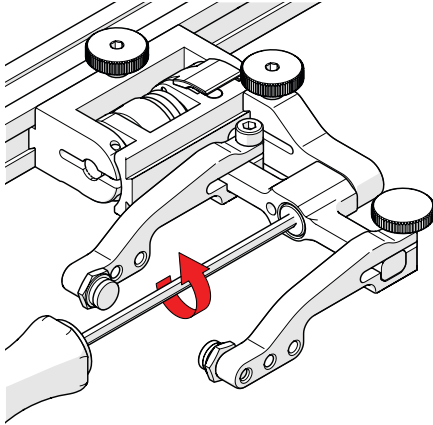

Fig. 85 - Unscrew yoke pivot screw
1. Unscrew the yoke from the swing arm (*Fig. 85*).